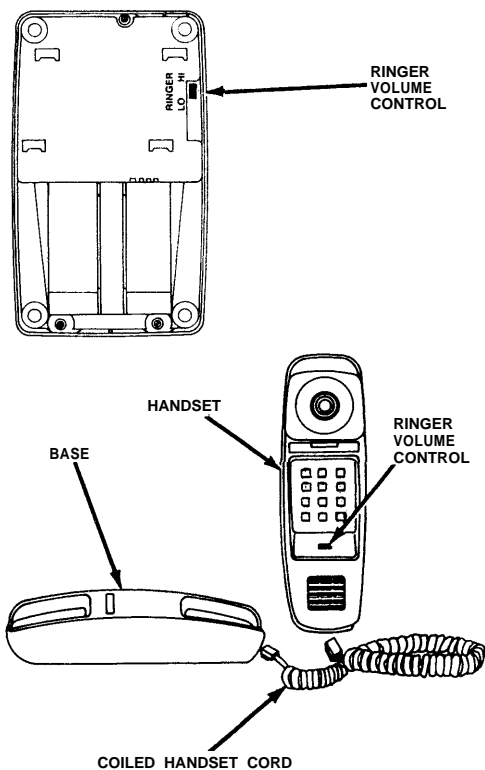

Figure 3. Setting the Ringer Volume Control (Desk and Trimline Telephones)
5. Turn your telephone over or for Trimline telephones, lift the handset. (Figure 3)